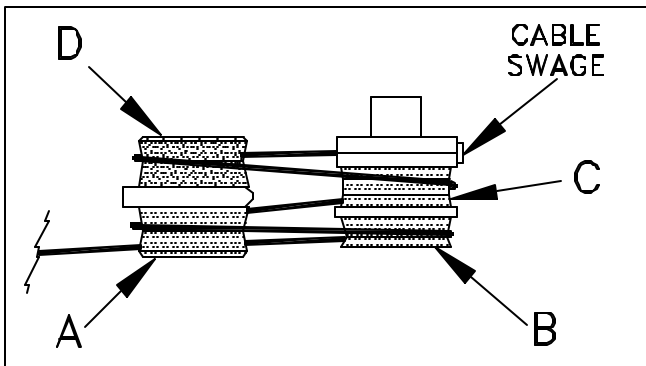

Figure 17
9. Refer to (Figure 17) while wrapping cable around the pulleys. The cable should protrude from the AutoStop tube at the lower corner of the tongue flat side facing you. From here, route the cable in front of pulley "A" and counterclockwise around pulley "B". Continue on the back side back to pulley "A" and go around it counterclockwise also. From here, route the cable around pulley "C" counterclockwise then pulley "D" counterclockwise. Lay the cable in the groove in the cable anchor and set the cable swage into the notch in the cable anchor.